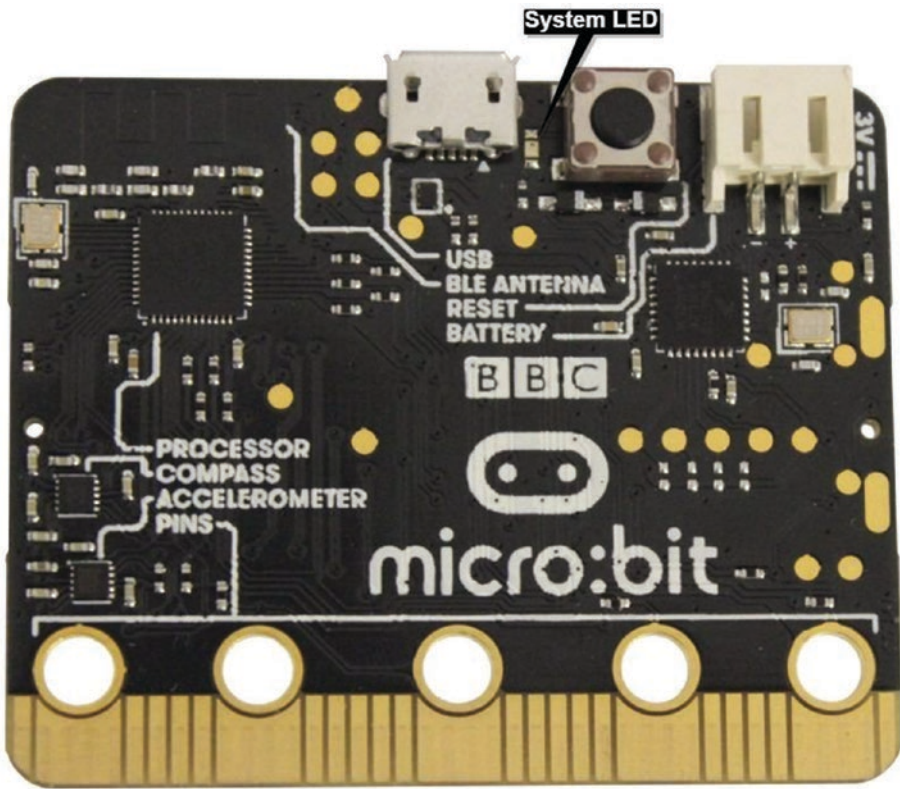

Figure 1-17. System LED indicates the presence of USB power (image courtesy of Kitronik)
3. The system LED (see Figure 1-17) on the back of the micro:bit will light up in yellow. This indicates the presence of USB power.